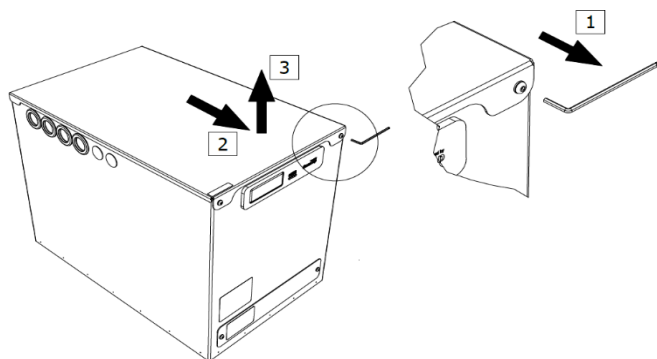

Figure 7: Access to Heat Battery connections
- Remove lid. The lid is secured by 2 x M5 button head capscrews at the front and two locating pins at the back (Figure 7):